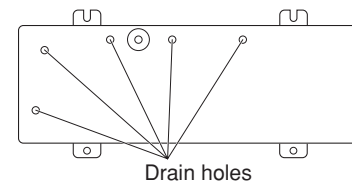

Fig. 5c
- provide a solid base (level concrete pad, concrete block, 6" × 1'4" (15 × 40 cm) beams or equal), a minimum of 6" (15 cm) above ground level to reduce humidity and protect the unit against possible water damage and decreased service life. (Figs. 5c and 5d)